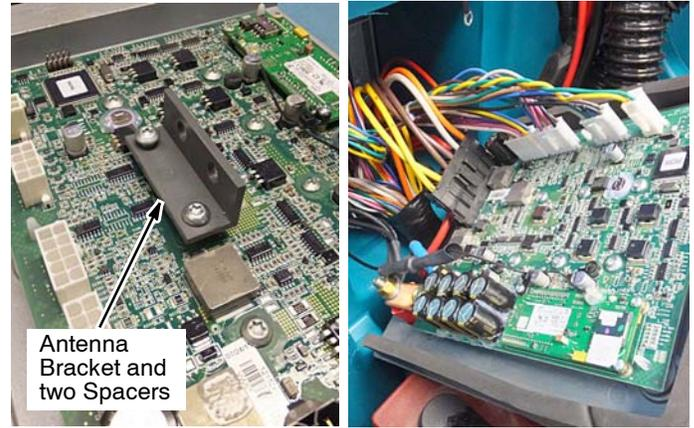

Fig. 8
4. Mount the new circuit board to the heat-sink panel using existing hardware (Figure 8). Install the antenna bracket with two spacers as shown. Reconnect the five wire harness connectors to new circuit board.